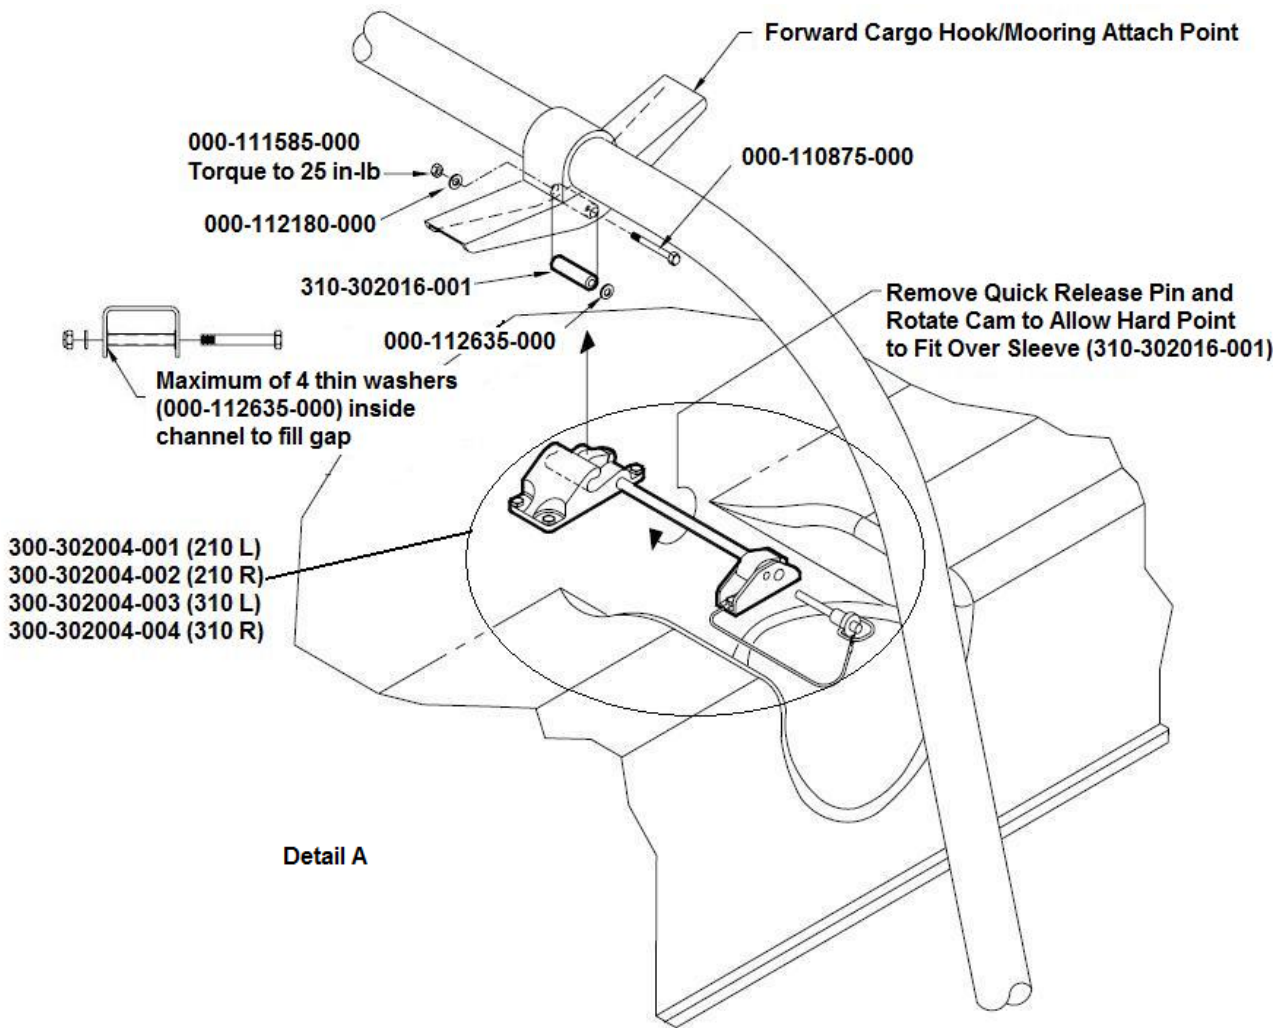

Figure 5: Forward Tank Attachment Detail A
14. Remove front attachment fittings 300-302004 Detail A in Figure 3 shown exploded in Figure 5 by removing the bolts, washers and nuts securing the brackets to the tank. Discard.
17. Remove bolt and spacer (310-302016-001) combination from rotorcraft attachment as shown in Figure 5 and discard.
19. Install new bolt and spacer combination from hard point kit as shown in Figure 5.
22. Install each 310-302017-001 bracket with two (2) 000-110020-000 bolts, 000-112040-000 washers and 000-111180-000 nuts.
23. Install each 310-302014-001 with four (4) bolts, 000-112080-000 washers and 000-111045-000 nuts supplied with installation kit. Choose proper bolt length from kit for installation in accordance with standard practices in MM.
24. Position replacement aft tank attachment brackets (310-3020223-001) and backup plates (310-302021-001) and install each set with six (6) 000-110172-000 bolts, 000-112080-000 washers and 000-111045-000 nuts as shown in Figure 5.
*Torque all hardware in accordance with MM **except** where the sleeve is held in the channel as shown in Figure 5, the two (2) 000-110875-000 bolts (one (1) per side) are torqued to **25 in-lbs** to prevent crushing of the cargo hook / mirror channel.*